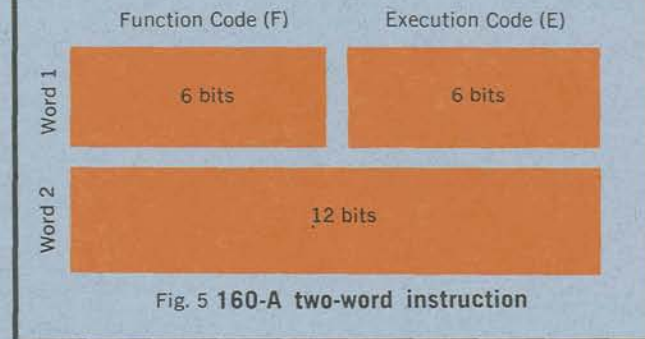

Fig. 5 160-A two-word instruction
Most instructions require only one word of storage, but certain expanded instructions are available which occupy two words of storage. The format of 2-word instructions has the first word containing a 6-bit function code and a 6-bit execution address. (See Fig. 5.) The execution address in two-word numbers is usually equal to zero. The second word contains a 12-bit address or operand (G), depending on the instruction. Words 1 and 2 are then located in sequential storage addresses of the same bank.